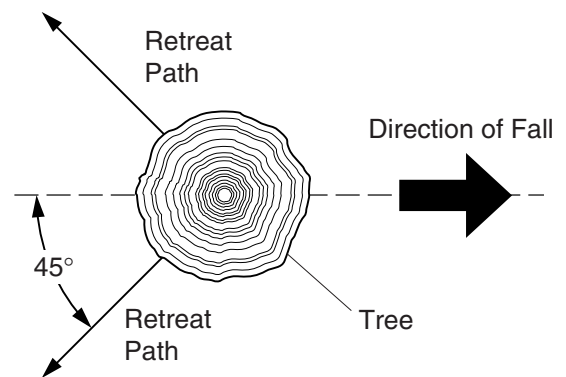

Figure 12 - Retreat Path From Tree
3. Plan and clear a retreat path before felling. Make retreat path opposite to planned direction of fall of tree and at 45° angle (see Figure 12).